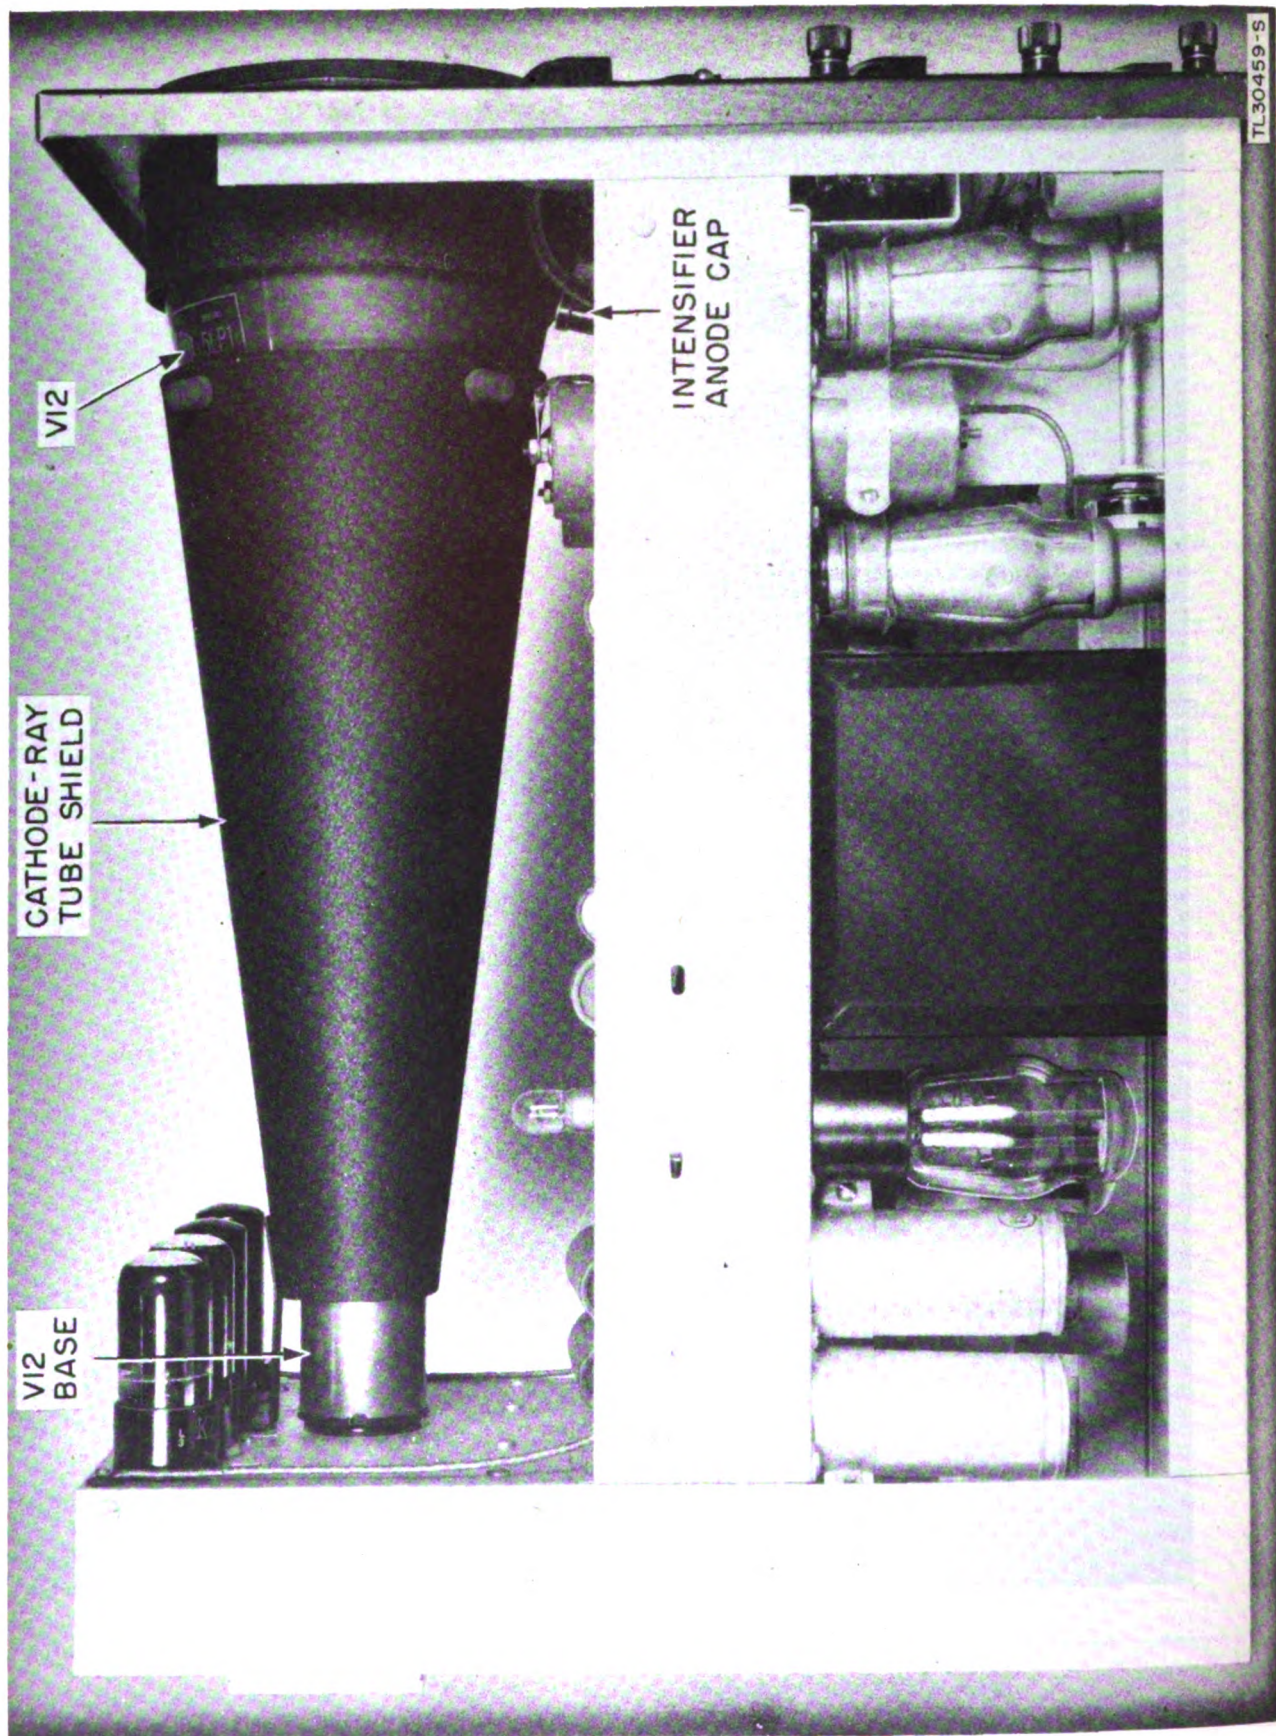

Figure 26. Side of chassis.
(3) Remove the intensifying anode cap from the terminal under the cathode-ray tube (fig. 26).
(4) Force the cathode-ray tube out of its socket by pulling on the tube base or by pressing on the alignment key with the thumb.
(5) Remove the screw which holds the tube shield support bracket to the back of the chassis.
(6) Remove the tube and shield together by lifting them out toward the rear of the chassis.
(7) In order to replace the tube and shield, replace all parts in reverse order.
(8) Turn on the oscilloscope and turn the cathode-ray tube and its socket until the sweep line is horizontal.